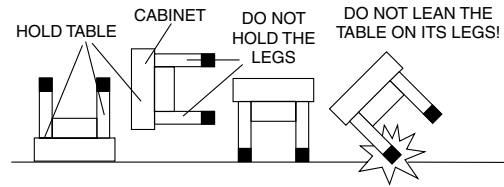

FIG. 2
- 8) Attach the Goal Covers (#21) to the Playing Surface using four Screws (#17) per Goal Cover. See Fig. 2
- 9) Thread the wires coming off the LCD Scorer (#5) through the opening on the one side apron and secure with two Screws (#10) to the scorer as shown in Fig. 2. Pilot holes show the proper screw placement. See Fig. 2 and Fig.2A